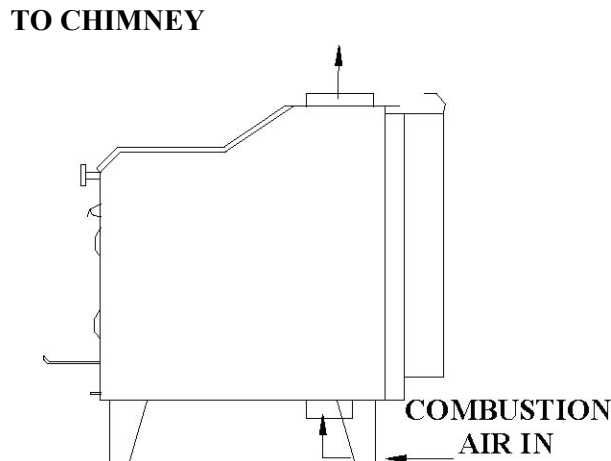

FIGURE 5: QUEEN ANNE LEG INSTALLATION
1. Refer to **FIGURE 5** for a diagram and refer to this paragraph's instructions on how to mount the Queen Anne leg kit to a Model R catalytic stove. If the installer is working with a different model catalytic stove, the instructions and mounting procedures are the same as the Model R.
- a. Locate the eight (8) bolts that are included with the four Queen Anne Legs.